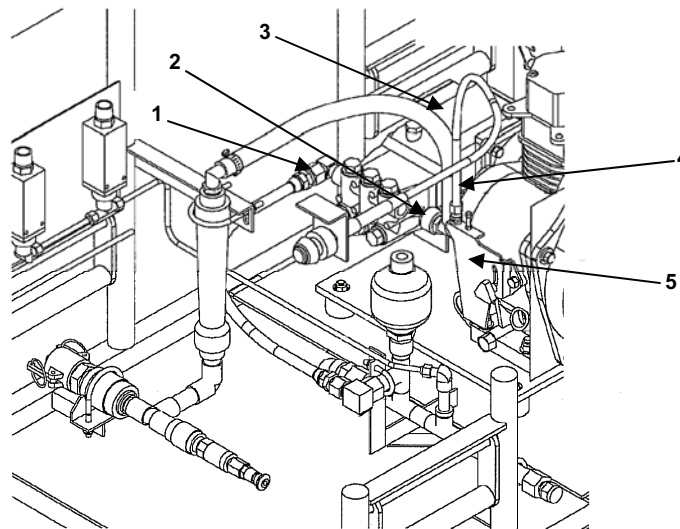

Figure 4. High and Low-Pressure Hoses/Throttle.
3. Remove outlet hose (Figure 4, item 1) and inlet hose (Figure 4, item 2) from the high-pressure pump (Figure 4, item 3).
4. Remove throttle cable (Figure 4, item 4) from the throttle plate (Figure 4, item 5). See (WP 0105).